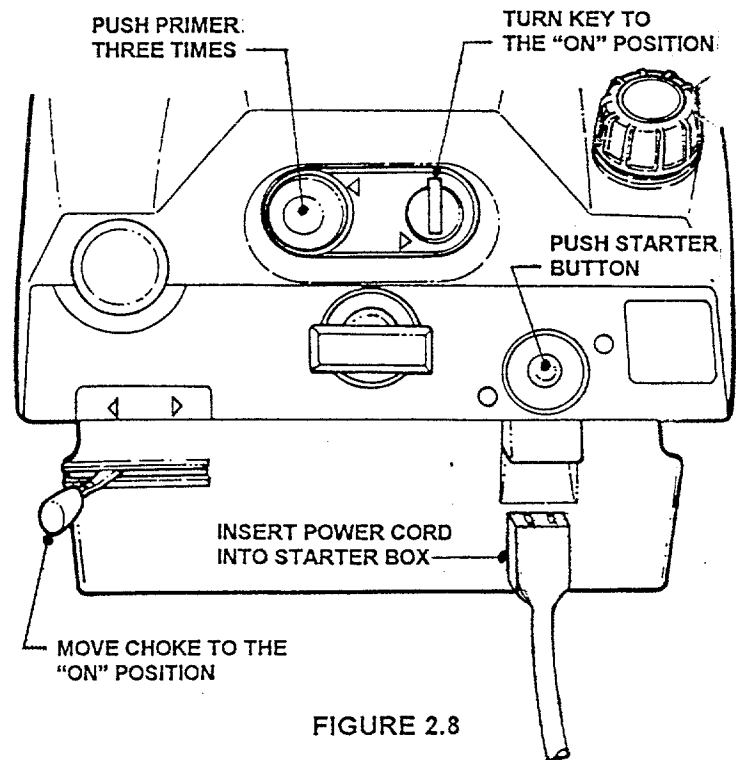

FIGURE 2.8
3. Move choke control to the choke "ON" position. See Figure 2.8.
5. Push the electric starter button. **DO NOT** hold button for more than 20 seconds to avoid damaging the starting motor. See Figure 2.8.